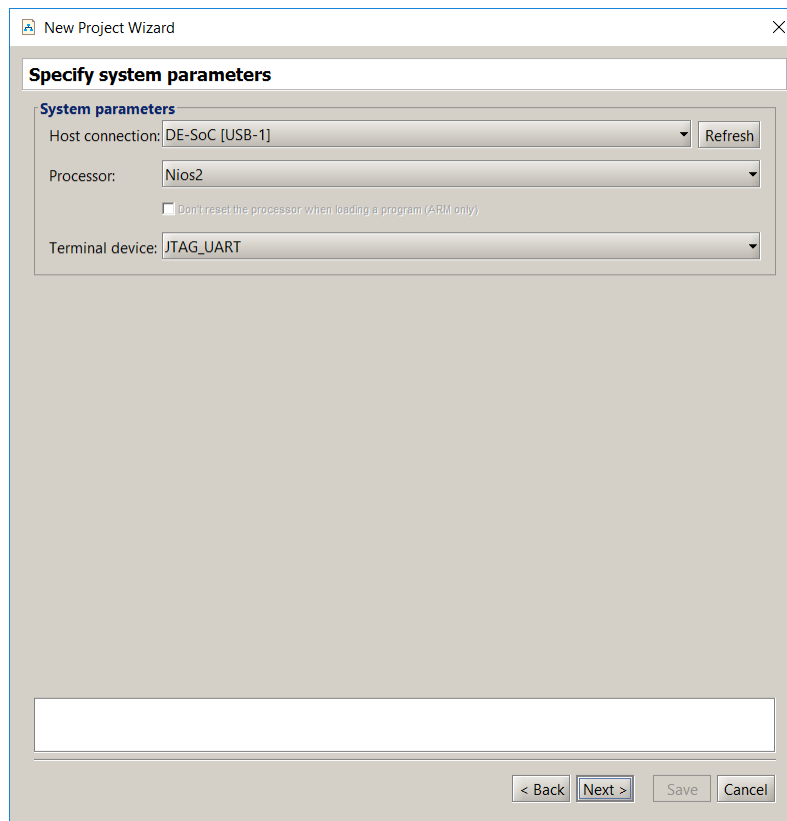

Figure 9. Specifying system settings.
4. Click **Next** to advance to the window in Figure 9. This window is used to specify the connection to the FPGA board, the processor that should be used (some hardware systems may contain multiple processors), and the terminal device. The **Host connection** drop-down list contains the physical connection links (such as cables) that exist between the host computer and any FPGA boards connected to it. The processors available in the system are found in the **Processor** drop-down list, and all terminal devices connected to the selected processor are displayed in the **Terminal device** drop-down list. We discuss terminal devices in Section 6.
Accept the default choices that are displayed in Figure 9. If the Host Connection box is blank, make sure that the DE1-SoC board is connected to the host by a USB cable and that its power is turned on. Then, press the
Monitor Program's *Terminal* window supports text-based input and output. To see its operation, create a new Monitor Program project, called *Monitor_Tutorial*. When creating the project, follow the same steps shown for the *Monitor_Tutorial* project, which were described in Section 3.1. For the screen shown in Figure 7 set the program type to **Assembly Program**, and select the sample program named *JTAG* UART*. The source code file for that program is called *JTAG_UART.s*. It communicates using memory-mapped I/O with the JTAG UART in the DE1-SoC Computer that is selected as the Terminal device in the screen of Figure 9.